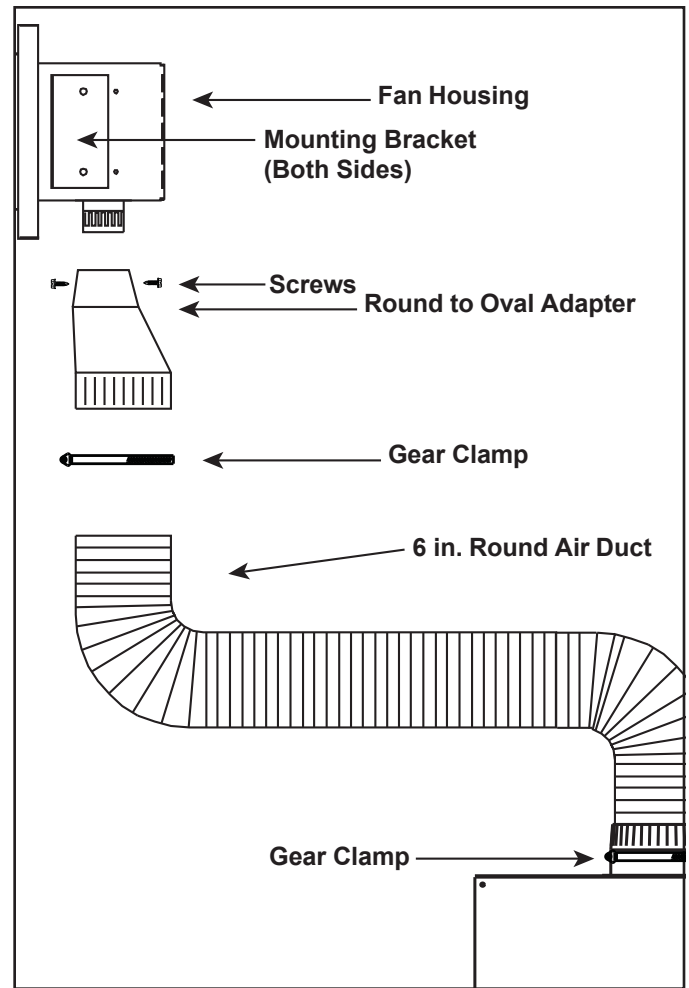

Figure 6.10
- Attach included air duct to the HEAT-ZONE-PRIMO collars with gear clamps. See Figure 6.10.
- Attach both mounting brackets to the fan housing. See Figure 6.10.